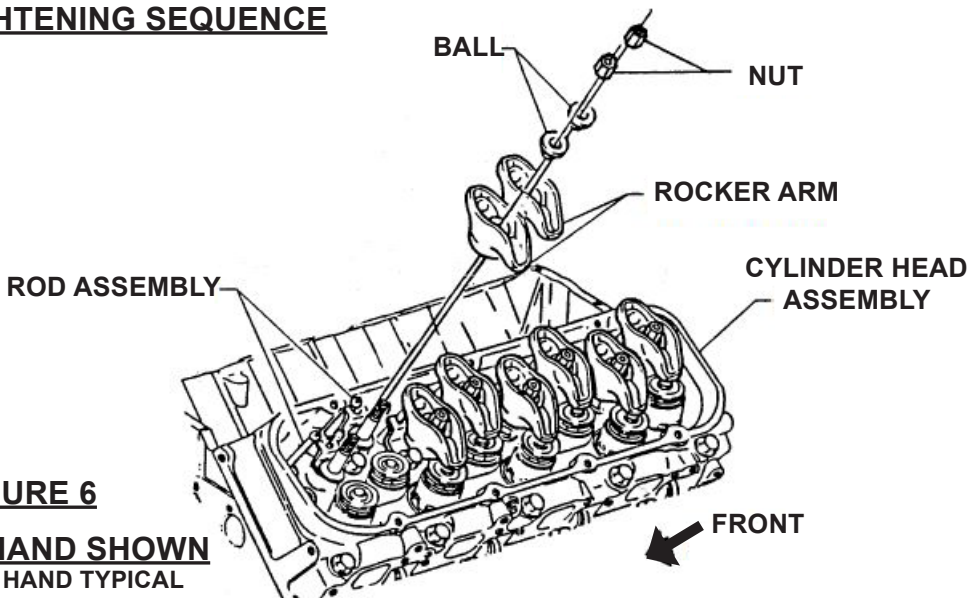

FIGURE 6
3. Hand tighten the rocker arms, the rocker arm balls, and the rocker arm nuts onto the rocker arm studs. See Figure 6.